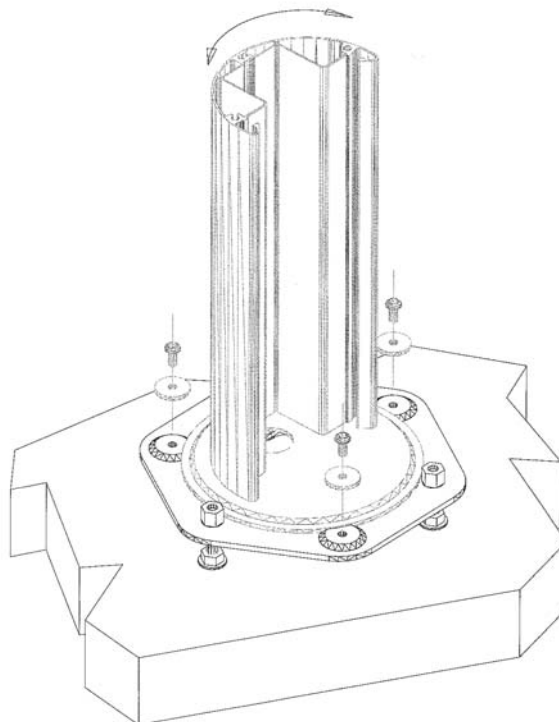

Fig.7
- Position the FMC column on the base with the three screws and washer, adjust the angle of the column as desired and fasten (fig.7);